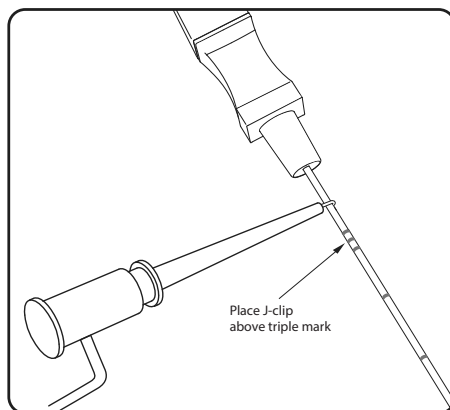

Figure 6. Connect needle test stimulation cable to the foramen needle
3. Attach the clip end of the needle test stimulation cable to the non-insulated section of the foramen needle (just below hub and above the triple dash mark on the foramen needle) (**Figure 6**).